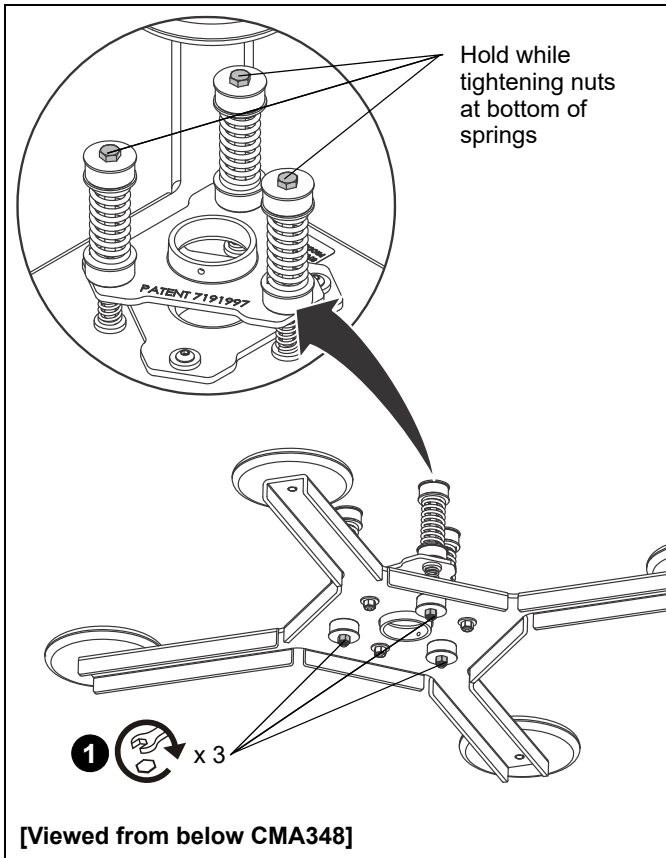

Figure 2
1. Tighten nut at bottom of each of the three springs **two full turns** while holding bolt at top of each spring. Be sure this is done in a uniform manner. (See Figure 2)